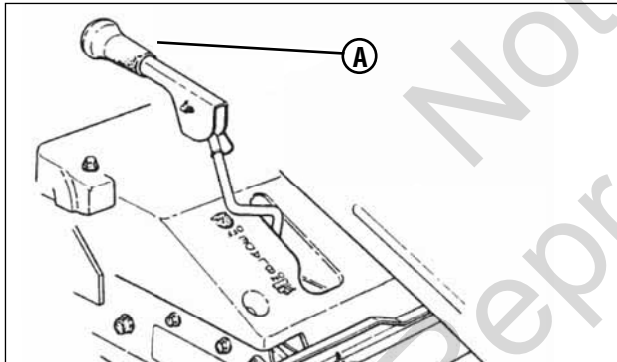

Figure 4: Blade lever (in ‘Off’ position)
2. Make certain the Blade Lever (**A, Figure 4**) is in the “OFF” position.
- Make certain the Blade Lever (A, Figure 4) is in the "OFF" position.